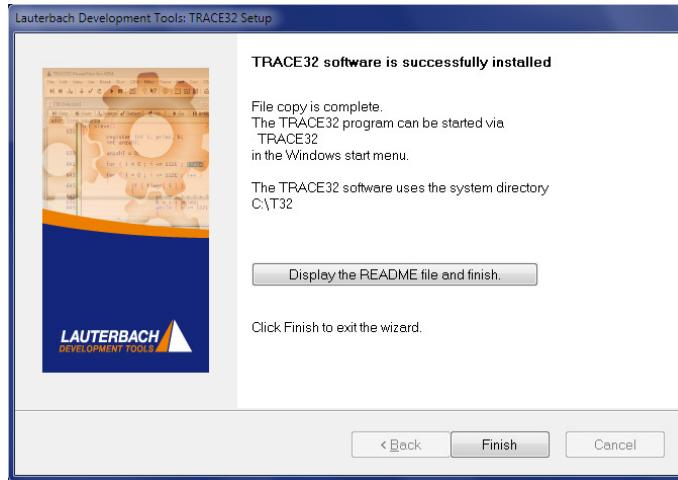

Figure 5.36: **TRACE32 software is successfully finished** page
18. The last page **TRACE32 software is successfully finished** shows the installation path and how to start the software (see Figure 5.36 on the following page). Click **Finish** to complete the installation.